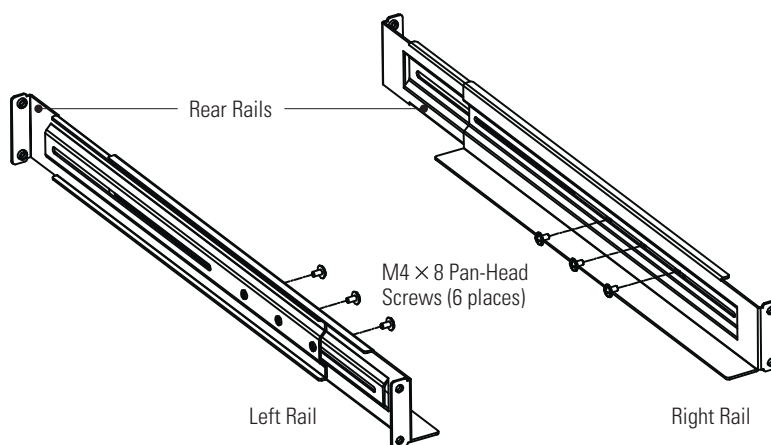

Figure 4. Assembling the Rails
1. Assemble the left and right rails to the rear rails as shown in Figure 4. Do not tighten the screws. Adjust each rail size for the depth of your rack.